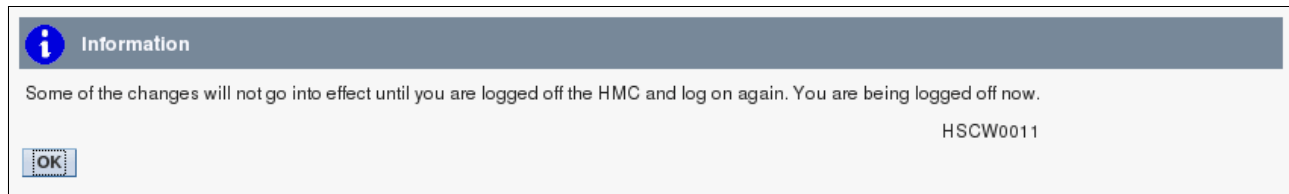

Figure 3-106 Information panel
35. In the information panel (Figure 3-106), click **OK**.